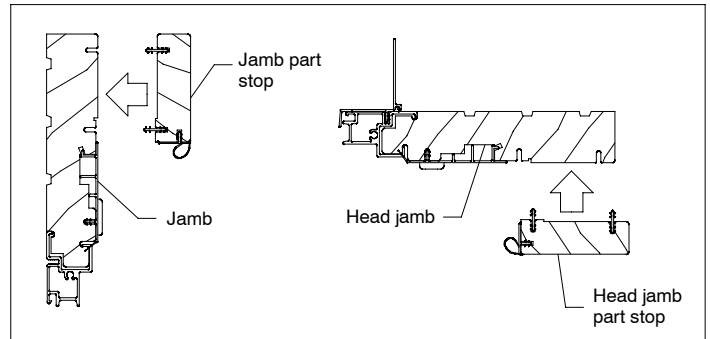

Figure 8
- Install head jamb and side jamb part stops. See figure 8.